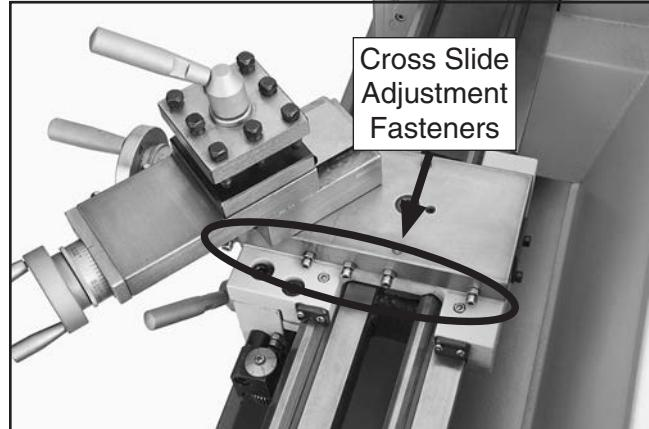

Figure 145. Cross slide gib adjustment hex nuts and cap screws.
2. Loosen hex nuts on side of cross slide or compound slide (see **Figures 145–146**).